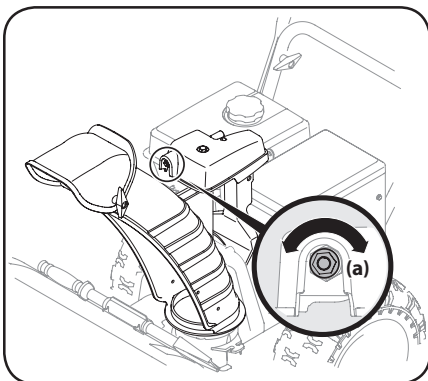

Figure 4-13
1. To increase preload, tighten hex nut (a) clockwise in 1/4 turn intervals. The chute control rod will need to be held stationary when tightening the nut. See Figure 4-13.